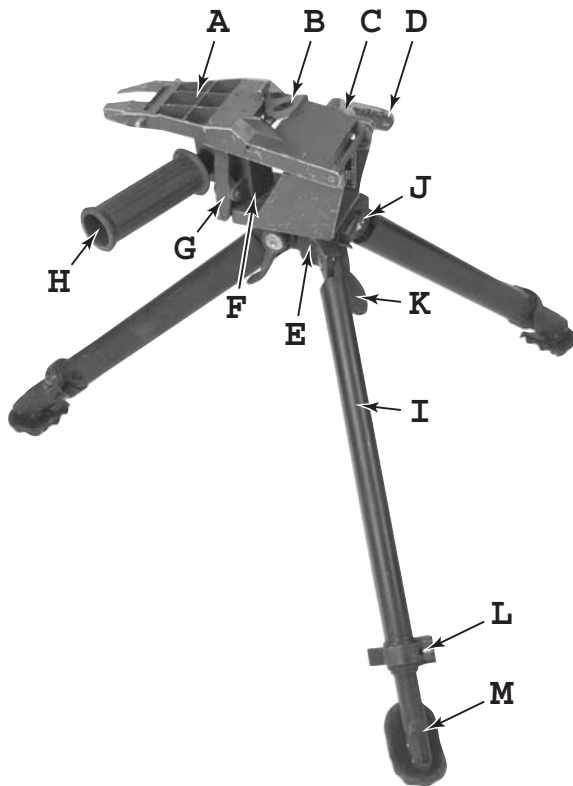

Figure 2-1: Parts of the Tripod
22. **Tripod.** The tripod is constructed of a lightweight alloy. It supports the firing post when used in the prone position and consists of the following components (see Figure 2-1; letters of following subparagraphs also refer to letters in the figure):